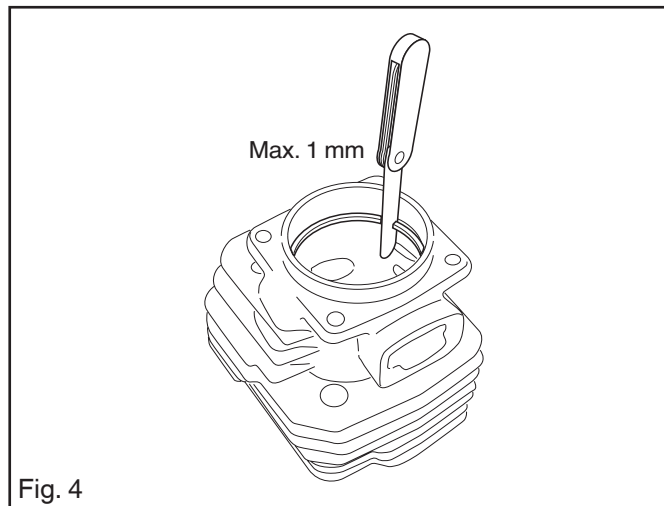

Fig. 4
5. Measure the wear on the piston ring by placing it in the cylinder and measuring the gap. See figure 4. The gap must not exceed 1 mm.